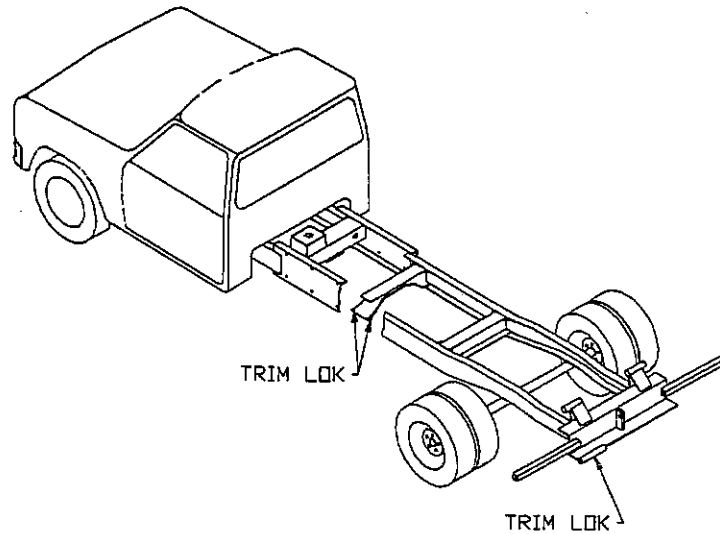

FIG. 4-62 CHASSIS TRIM-LOK
flanges on the left side to protect hydraulic hoses and electrical lines. (See FIG. 4-62, next page)
b. Z-plate, trailing edge on the street side half to protect hydraulic hoses and electrical lines. (See FIG. 4-62, next page)